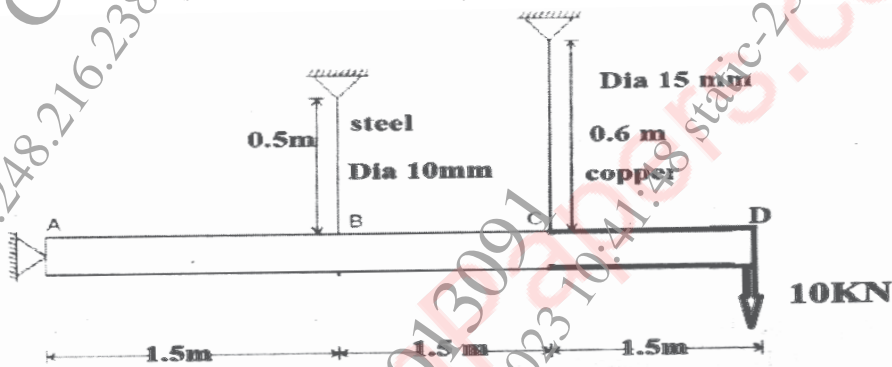

Fig 2.1
b) A rigid rod ABCD is supported by a hinge at A and two wires at B and C as shown in figure 2.1. Determine the stresses and elongation of the two wires. Take $E_s = 200\text{GPa}$ and $E_c = 100\text{GPa}$. [8]